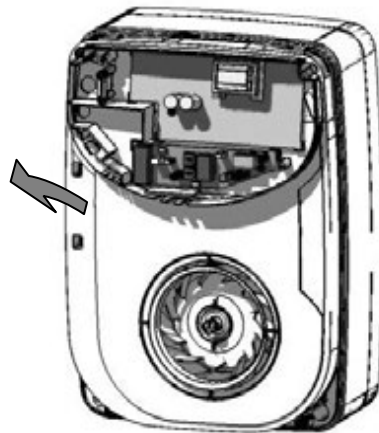
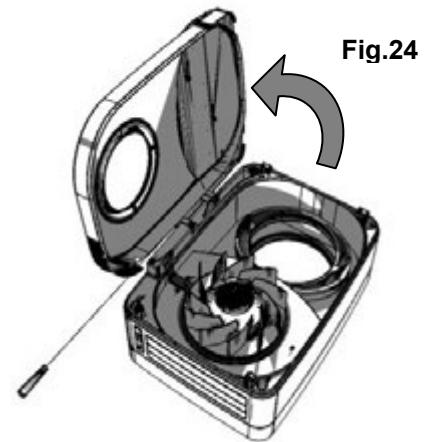

Fig.23
Fig.24
3. Lift where indicated to engage hinges Fig 23 and open Door Fig 24.